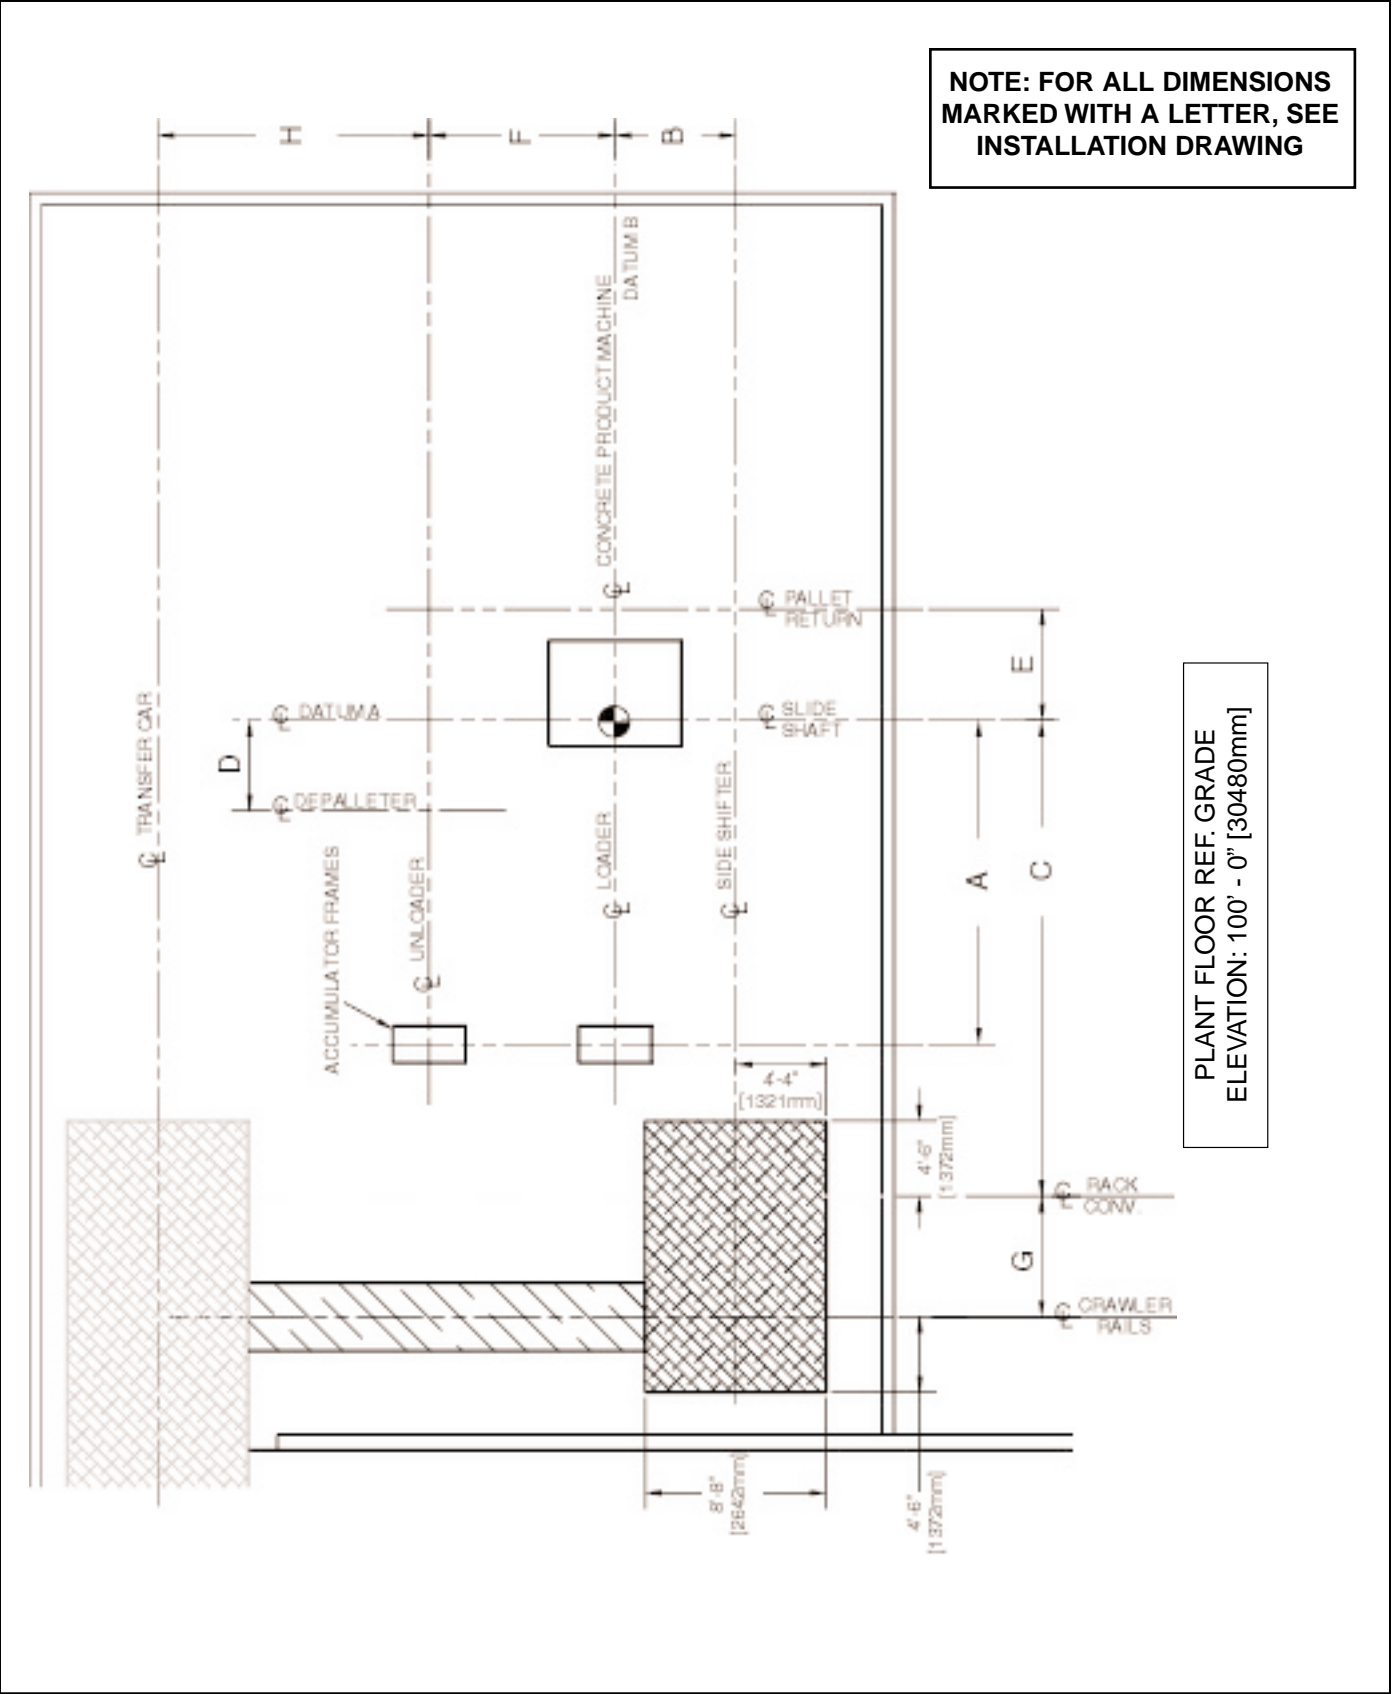
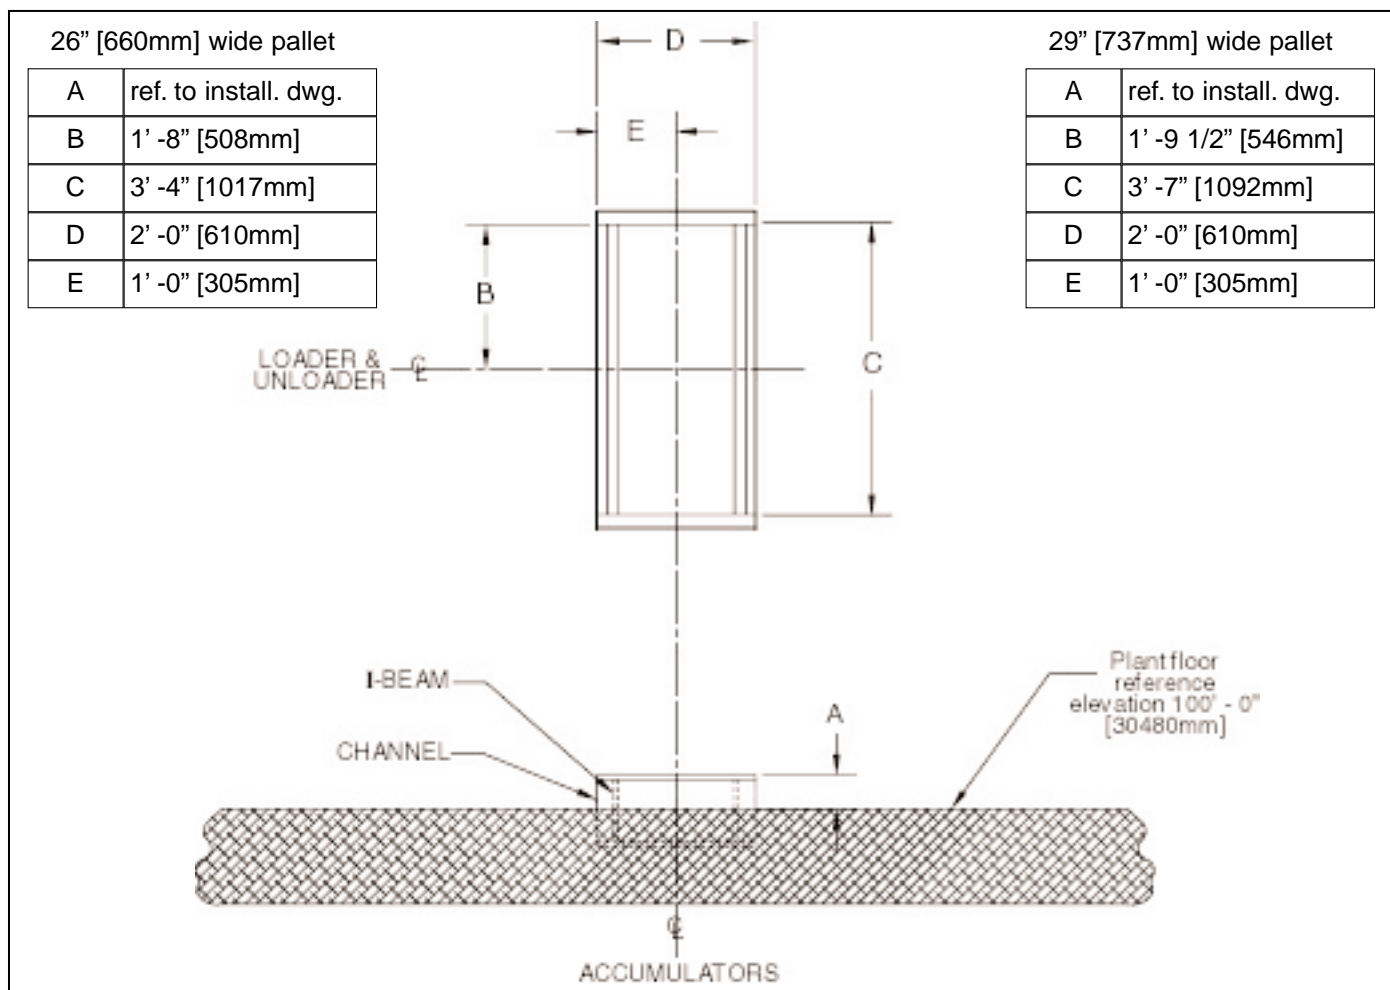

Figure 2.2 MS-10 BESSER-MATIC INSTALLATION (ref. installation print - sheet 1).
Figure 2.3 ACCUMULATOR FRAME ASSEMBLIES.
3. Locate steel frames in the floor as per installation drawing. The MS-10 foundation requires two frame assemblies; one under the Loader Accumulator and one under the Unloader Accumulator. These steel foundations should be made to support 12,000 lbs [5454Kg] each. The Loader Accumulator centerline is the same as the centerline of the FDC. Note that the centerline of the FDC is not the same as the center of the concrete slab. The centerline of the concrete product machine is offset to one side of the foundation (see figure 2.2 in the Vibrapac Installation Manual #466365F9701). The size of the loader and unloader Accumulator frame assemblies is shown in figure 2.3 and in table 2.1.
4. Once the frame has been welded together, it can be placed in the proper location into the floor at the proper elevation using a transit (refer to figure 2.2).